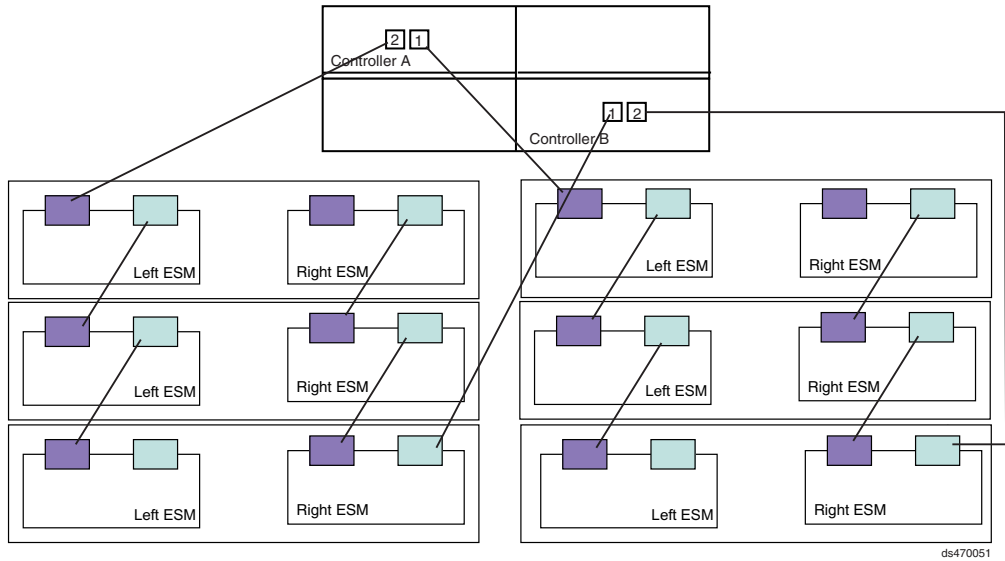

Figure 55. One DS4700 Express and up to six storage expansion enclosure — Recommended cabling
If you are cabling one DS4700 Express Storage Subsystem and up to six storage expansion enclosures, Figure 55 on page 74 shows the recommended cabling topology.
7. When connecting six storage expansion enclosures to a DS4700 Express, use all ports in both drive channels. See Figure 55 on page 74 for the recommended cabling topology.